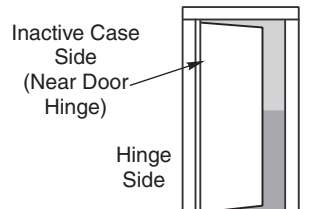

Figure 3
2. Mount chassis to door as indicated in Figures 3 and 4.